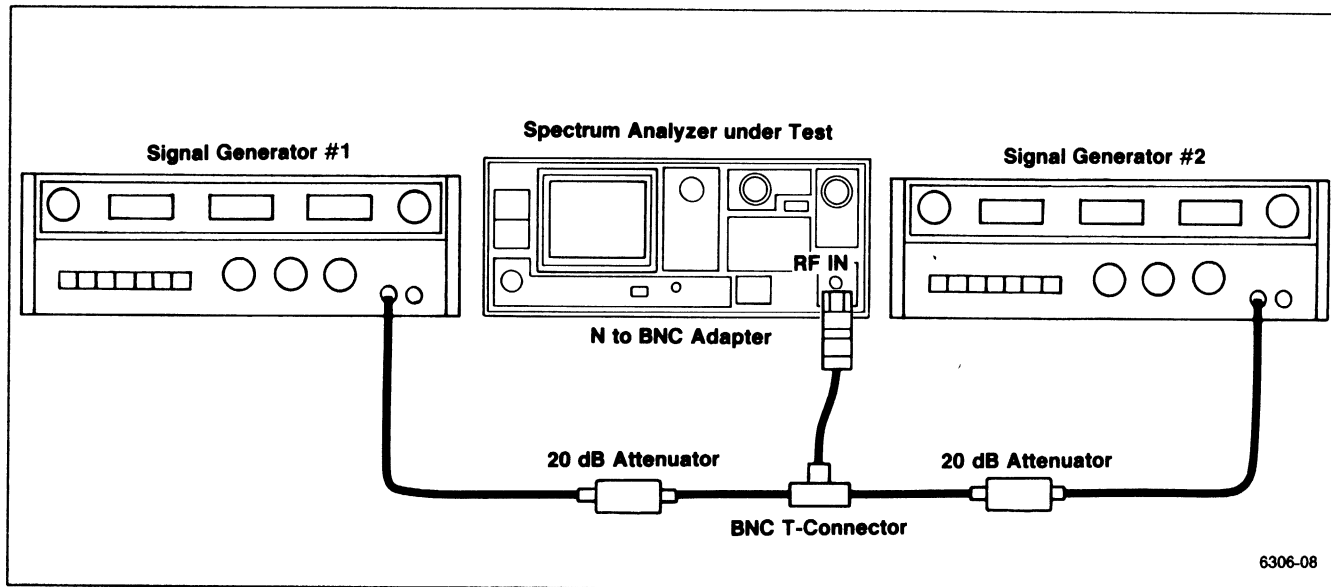

Figure 4-13. Test equipment setup for checking intermodulation distortion.
a. Connect the test equipment as shown in Figure 4-13, and set the Spectrum Analyzer controls as follows: